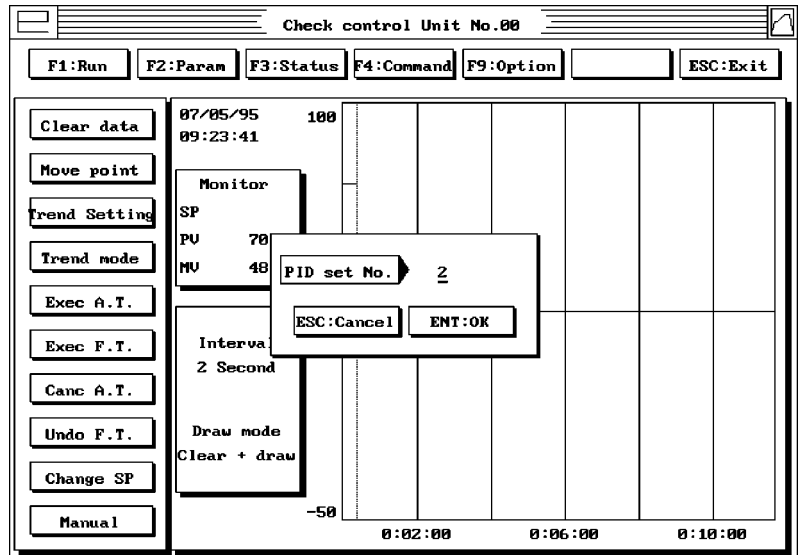

Figure 22
- 3. A pop-up window appears to confirm the PID set that you are using (Figure 22). Enter the appropriate PID set number and select **ENT:OK**.